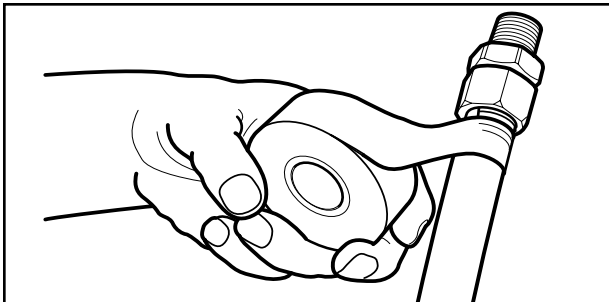

Figure: 4-5 Wrapping with self bonding silicone tape - begin on jacket.
- When installed outdoors, the plastic jacketing shall remain intact as much as practical for the given installation. Any portions of exposed stainless steel shall be wrapped with self bonding silicone tape sealing the fitting connection to prevent later corrosive attack by acid wash or chloride based compounds. (See Figures: 4-5 and 4-6).
2. When **TracPipe**® is installed in a swimming pool mechanical room or exposed to a corrosive environment which may be harmful to the tubing, all exposed portions of the stainless steel tubing shall be wrapped with self-bonding tape. (See Figures: 4-5 and 4-6).